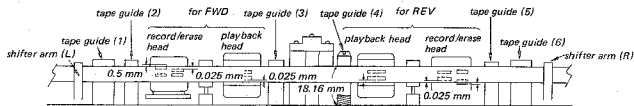

Fig. 3-25. Head adjustment
8. Make sure that the positioning relation between the head core and the tape is correct. See Fig. 3-25.